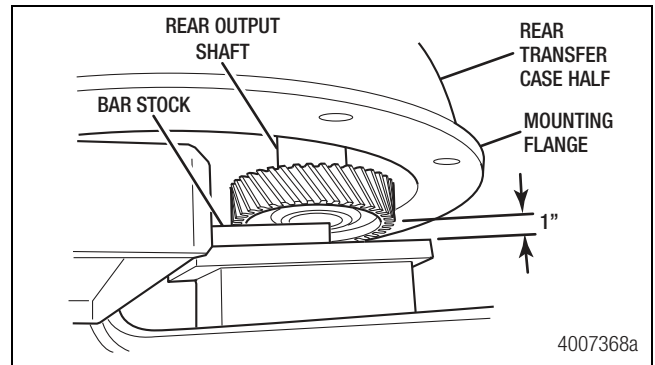

Figure 7.19
2. Use bar stock or other material to support the rear output shaft underneath the rear transfer case half. Ensure the bar stock does not rest under the transfer case mounting flange, but only supports the gear and shaft assembly. Figure 7.19.